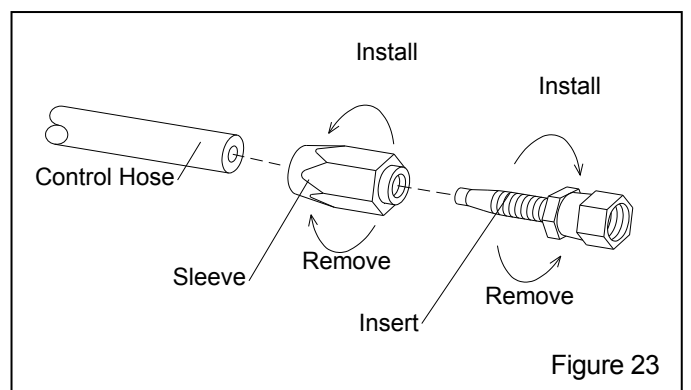

Figure 23
6.12 Remove and Install Reusable Control Hose Ends, Refer to Figure 23